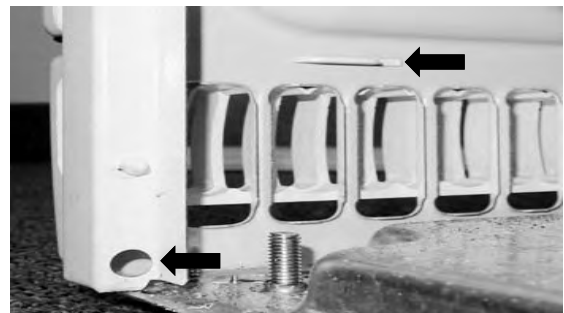

Fig. 11-2
- To remove Toe Kick (Fig. 11-1), remove the Left and Right Side Panels as described in Section 8. With the Side Panels removed, remove the two (2) Phillips screws that hold the Toe Kick in place and slide the Toe Kick off from its mounting slots (Fig. 11-2).